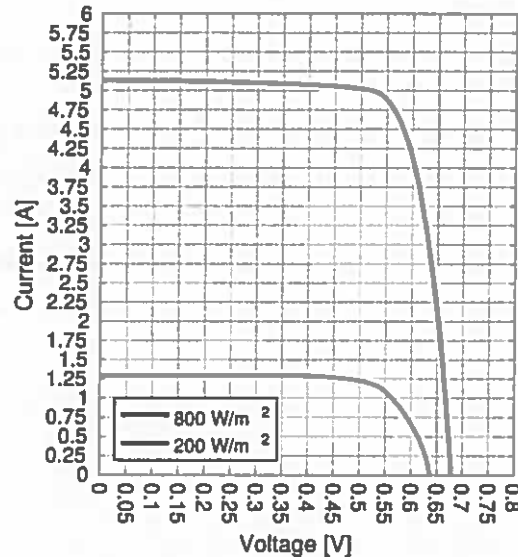

Figure Q2.1- V-I curves of a solar cell.
**Q2. A question about solar photovoltaic (PV) generation**
- a) The graph in Figure Q2.1 shows the output current of a PV cell against its output voltage for two different irradiation levels.